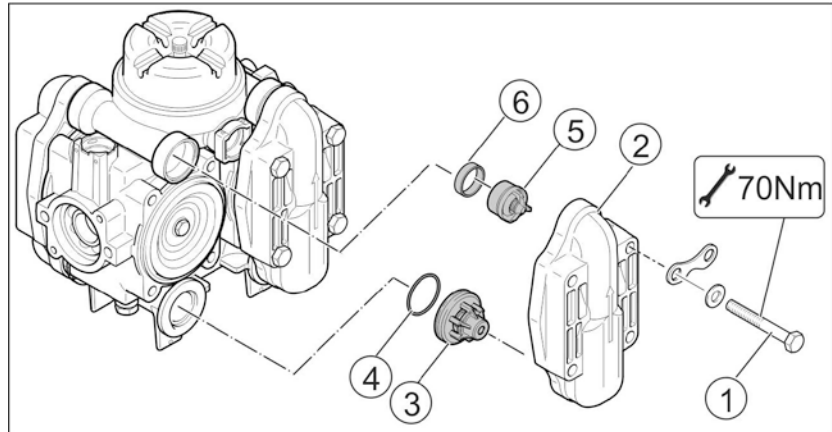

Fig. 191
2. Loosen bolts (Fig. 191/1).
3. Remove the valve cover (Fig. 191/2).
4. Remove the valve groups (Fig. 191/3).
5. Remove the valve sealing ring (Fig. 191/4) and O-Ring (Fig. 191/5).